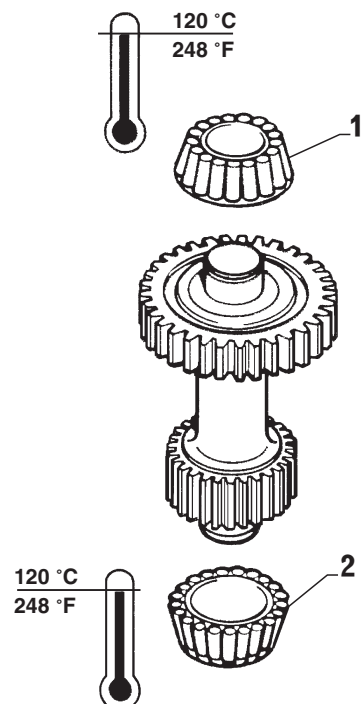

FIG. 2-1
Heat inner races of tapered roller bearings (item 1 and 2, Fig. 2-1) to approx. 120 °C (248 °F) and push them onto the intermediate shaft up against the shaft collar.